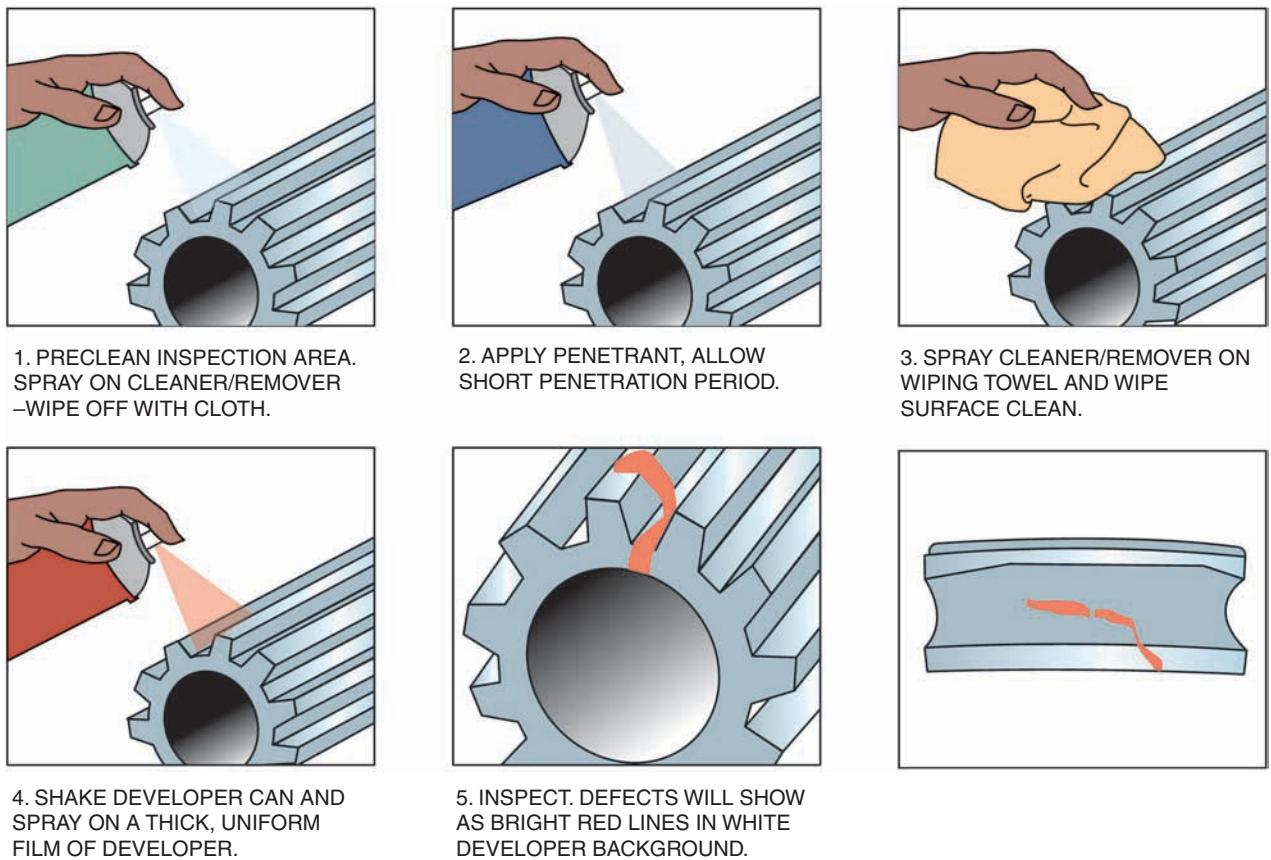

Figure 9.35 Penetrant testing
5. Depending upon the type of penetrant applied, visual inspection is made under ordinary white light or near-ultraviolet black light, Figure 9.35. In the latter case, the penetrant fluoresces a yellow-green color, which clearly defines the defect.